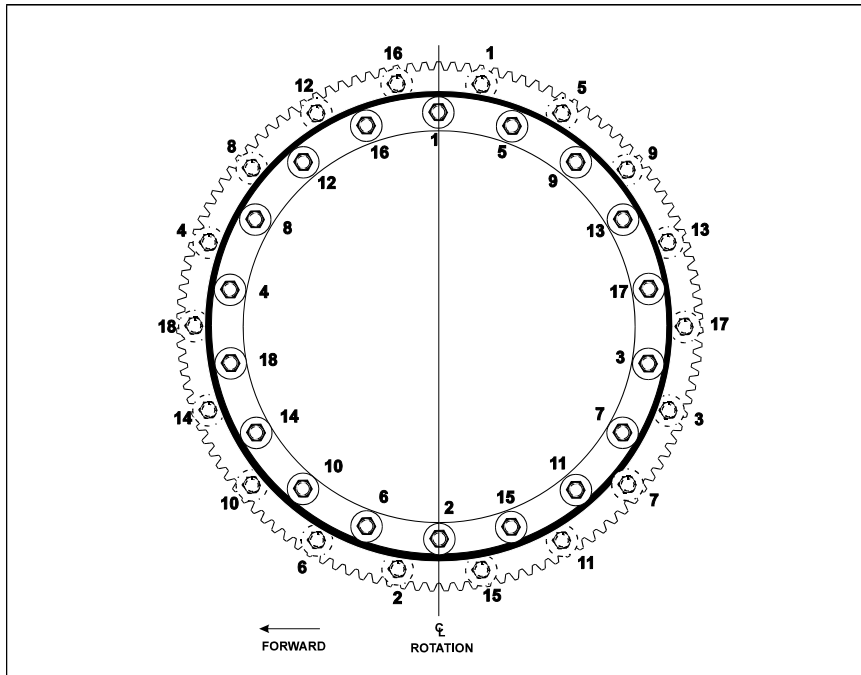

Figure 3-45. Swing Bearing Torque Sequence
- c. Refer to the Torque Sequence diagram as shown in Figure 3-45., Swing Bearing Torque Sequence. Clean any residue off the new bearing bolts, then apply a light coating of Loctite #271 and install the bolts and washers through the frame and outer race of the bearing. Tighten the bolts to a torque of 190 ft. lbs. (258 Nm) w/ Loctite.